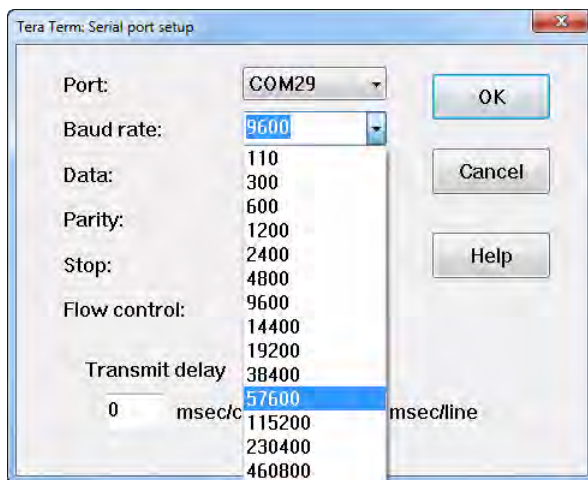
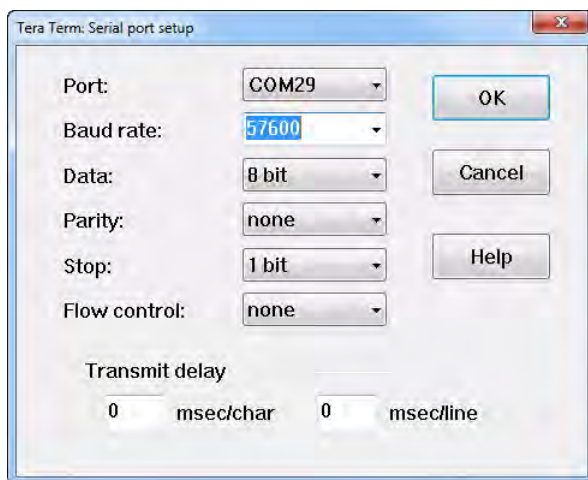

Figure 5. Baud Rate Selection
Figure 6. USB Serial Port Setup
5. In the **Tera Term: Serial port setup** dialog box that appears, select 57600 from the **Baud rate:** menu, as shown in Figure 5. Allow the other settings to remain at the default values shown in Figure 6, and click **OK**.